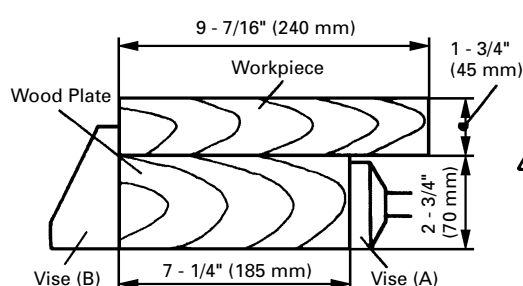

Fig. 19
- (1) Fig. 19 shows the dimensions of a wide workpiece to be cut at a right angle (0°). The use of a plate as illustrated in the figure, permits cutting of wide workpieces of up to 9 - 7/16" (240 mm) (width) × 1 - 3/4" (45 mm) (height).